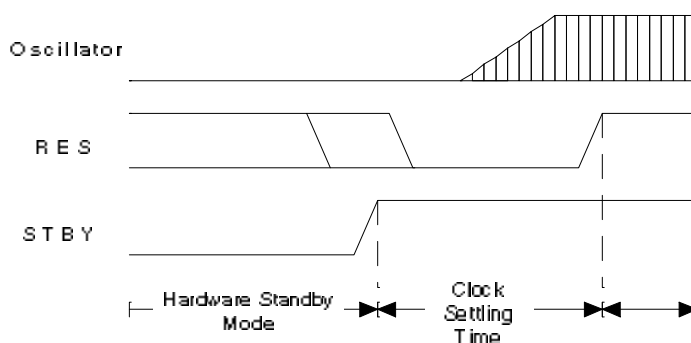

Figure 2: Exiting Hardware Standby Mode
2. reset the device by pulsing the RES pin (see Figure 2 for the timing relationships on performing this function).